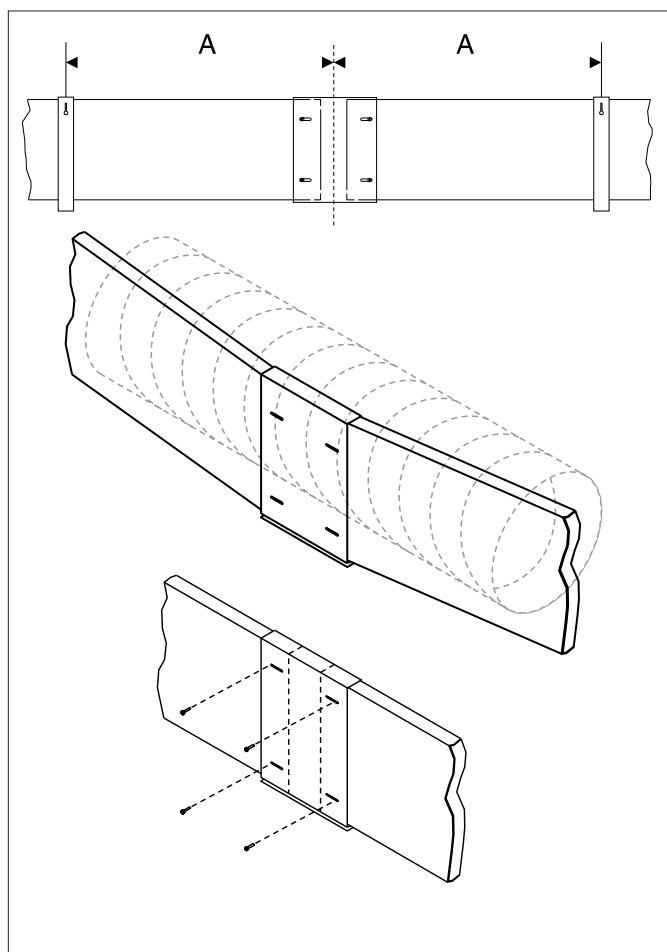

Fig.4.28 Side connections
**ATTENTION:** if the distance (A) fig.4.28 between the connections and the sides is more or equal to 1 meter, it could cause cambering.
- Fix the connections with camber using a further 4 self-drilling screws as shown in figure 4.28.